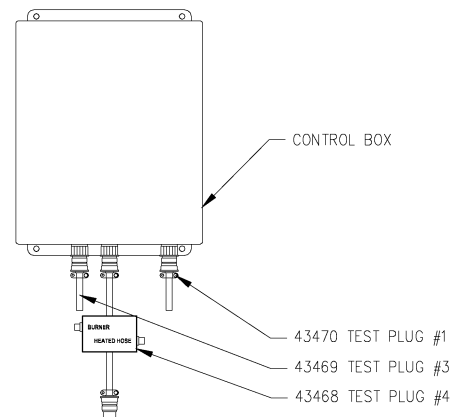

Fig. 2
2. Calibrate using test light kit p/n 43447. Install all test plugs as shown in (Fig. 2), attach original cable to test plug #4.